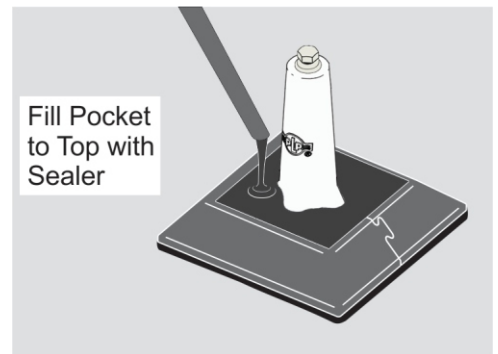

Figure 2-7: Filling Pocket with Sealer
- I. Fill the Pocket with Universal Sealer working around the Post and allowing an even flow of Sealant. Fill the Pocket evenly to the top. (See Figure 2-7)